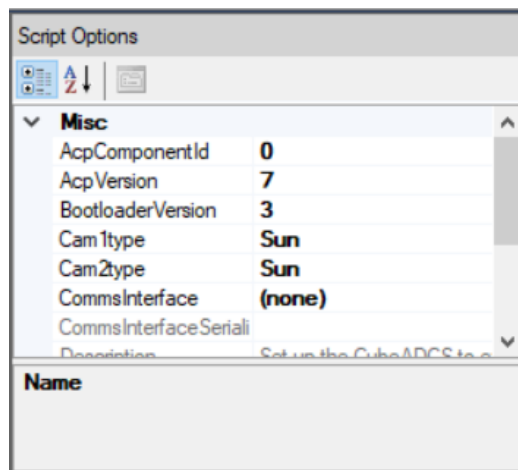

Figure 10 – Script Options
- Go to the Script Options (see Figure 10), and select the appropriate options as follows: